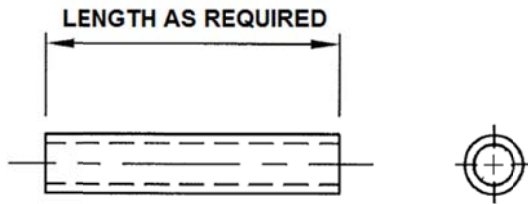

FIGURE 2 DISTANCE TUBE (IF REQUIRED)
- ii. If the measured distance is less than 0.50” then the distance tube may be trimmed in length to suit (See Figure 2). If the measured distance is more than 0.50”, replace the Fuel Pick Assembly as indicated on step a).